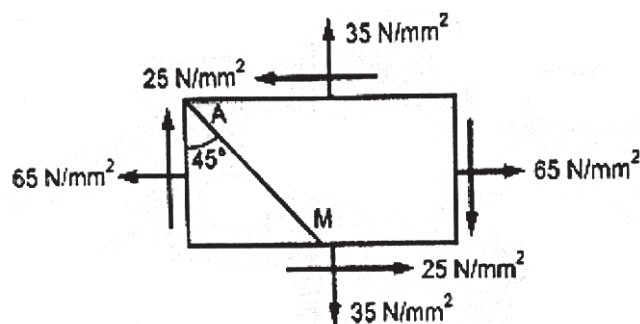

Fig 4
- Q6) a)** A point in a strained material is subjected to stress as shown in fig.4. Using Mohr's circle method (Using only graphical method). Determine
- The normal and tangential stresses across the oblique plane AM as shown in fig.4.